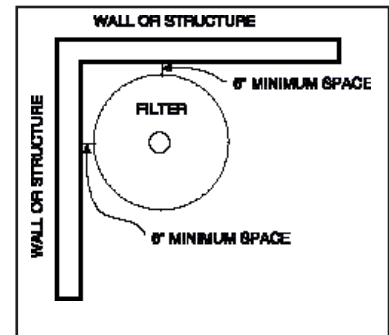

Figure 1.
3. Install electrical controls (e.g., on/off switches, timers control systems, etc.) at least five (5) feet from the tank, with enough room to stand clear of the tank during system start up.
4. Provide sufficient clearance around the tank to permit visual verification that the clamp is properly installed, see Figure 1.